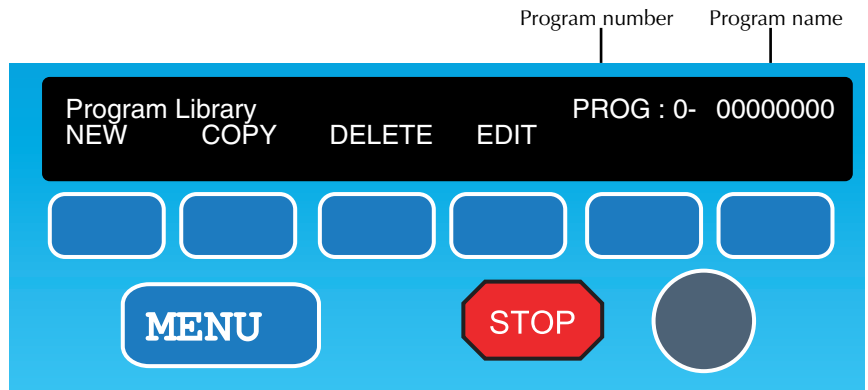

Figure 7-20: The **Program Library** screen.
- 1) Press the **PROG** softkey in the main screen to open the **Program Library** screen (Figure 7-20). Each program is assigned a number and an alphanumeric name of up to 8 characters. Turning the knob when in the **Program Library** screen scrolls through the plate definitions. The number and name of the chosen program are displayed in the upper right corner of the screen. If a program is empty (i.e., has not been defined yet), the name stays blank.